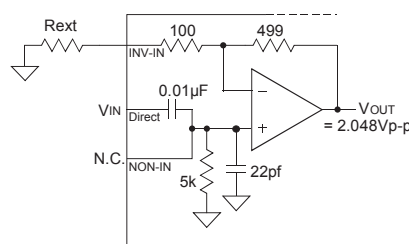
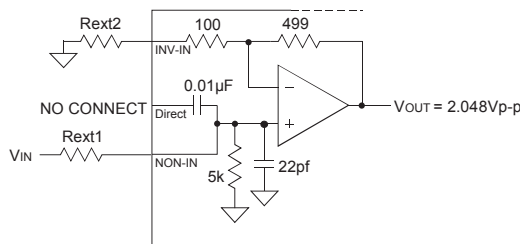
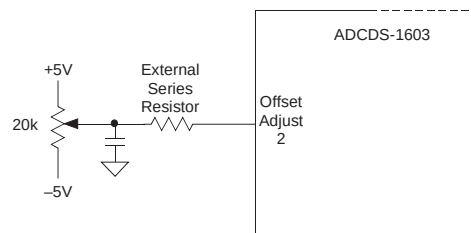

Figure 2b. Direct Mode
Figure 2d. Non-inverting Mode
Figure 3. Offset Adjustment Circuit
- Offset adjustment resistor (Figure 3), Rext (Figure 2b, 2c, & 2f), and Rext₁ & Rext₂ (Figure 2d) should be placed as close to the ADCDS-1603 as possible.
When applying inputs that are less than 2.048Vp-p, a coarse gain adjustment (applying an external resistor to Inverting Input) must be performed to ensure that the full scale pixel data input signal (saturated signal) produces 2.048Vp-p signal at the input-amplifier's output (V_{OUT}) (See figure 2b & 2c).
The ADCDS-1603 achieves its specified accuracies without the need for external calibration. If required, the device's small initial offset error can be reduced to zero using the OFFSET ADJUST feature (See figure 3). For fine gain adjustment model, contact the factory.
Figure 2b. describes the configuration for applications using a pixel data input signal with an amplitude greater than 0.342Vp-p and less than 2.048Vp-p. Using a single external series resistor, the coarse gain of the ADCDS-1603 can be set. The coarse gain of the input amplifier can be determined from the following equation: V_{OUT} = 2.048Vp-p = V_{IN} * (1+(499/(100+Rext))) (all internal resistors having a 0.1% tolerance).
Figure 2d. describes the typical configuration for applications using a pixel data input signal whose amplitude is greater than 2.048Vp-p. Using a single external series resistor (Rext1) in conjunction with the internal 5K (1%) resistor to ground, an attenuation of the input signal can be achieved. The coarse gain of this circuit can be determined from the following equation:
Manual offset adjustment for the ADCDS-1603 can be accomplished using the adjustment circuit shown in Figure 3. A software controlled D/A converter can be substituted for the 20KΩ potentiometer. The offset adjustment feature allows the user to adjust the Offset/Dark Current level of the ADCDS-1603 until the output bits are 0000 0000 0000 0000 and the LSB flickers between 0 and 1. The ADCDS-1603's offset adjustment is dependent on the value of the external series resistor used in the offset adjust circuit (Figure 3) and the gain of the input-amplifier.